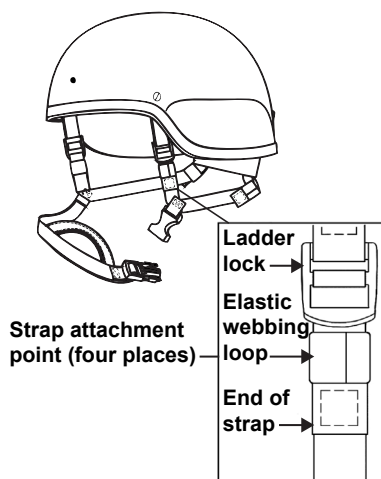

Figure 26. Retention Straps
1. Referring to **Figure 26**, slide the four elastic webbing loops down to free the ends of the retention straps.